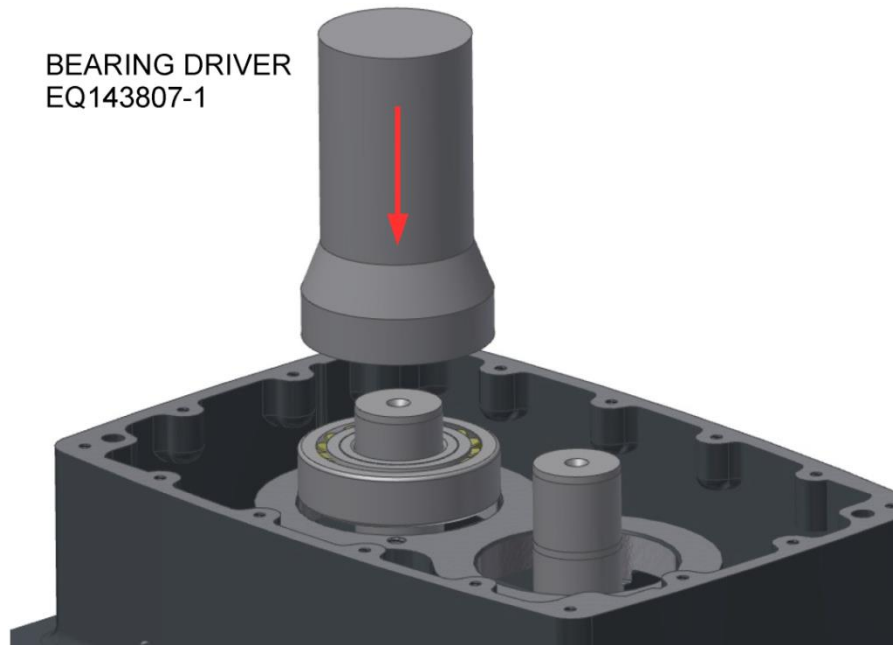

FIGURE 7-4 – PRESS BEARING ONTO ROTOR SHAFT
24. Place the air cylinder vertically in a hydraulic press with the gear end on top. The bottom of the idler rotor shaft must be in contact with the bed of the press. The bottom of the drive rotor shaft must not be in contact with the bed of the press. The blower air cylinder must be cradled on its sides but must not be restrained in the vertical direction. Place a roller bearing (58) over the rotor shaft with the numbers on the bearing facing up. Press the bearing onto the idler rotor shaft using the hydraulic press and the bearing driver tool (EQ143807-1). See FIGURE 7-4